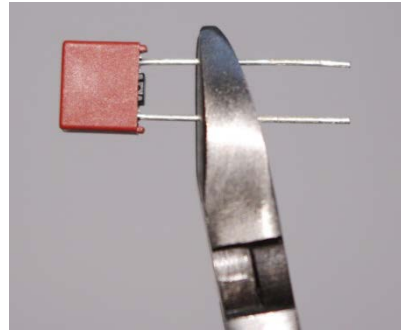

Figure 3.5-1: Cutting the Fuse Leads to ¼" Length
1. Locate the fuse. If its leads are longer than about ¼" (6 mm), cut both leads to that length, as shown in Figure 3.5-1.